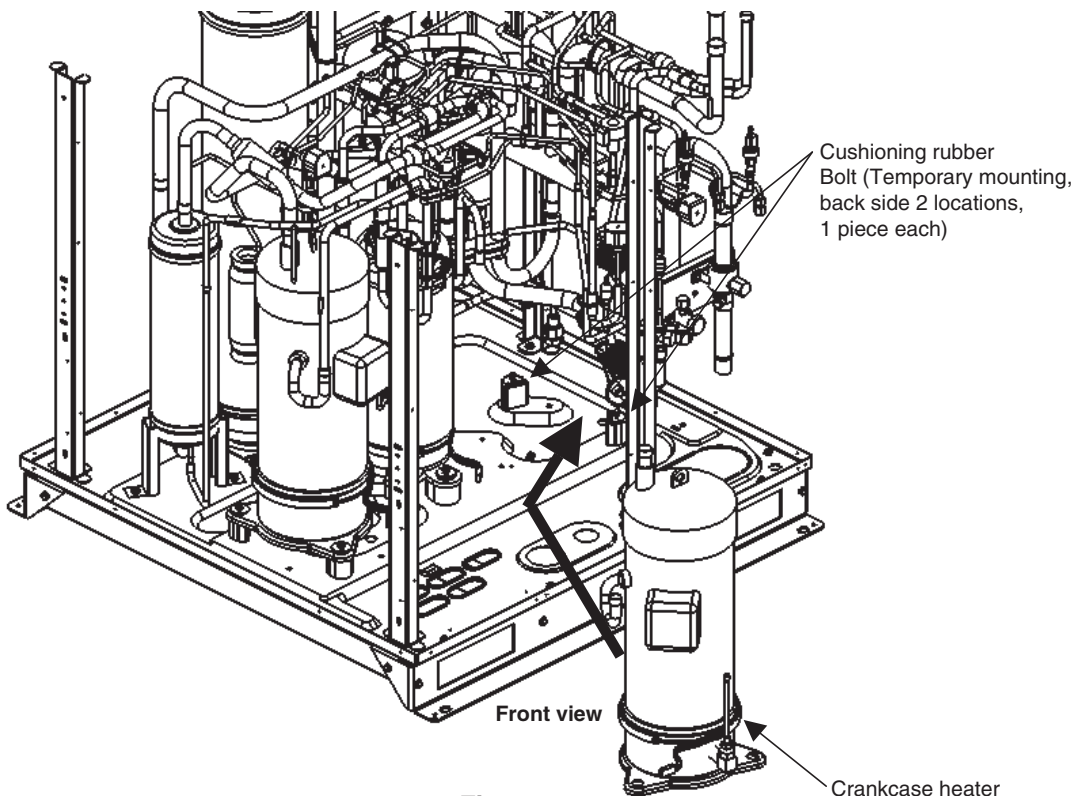

Fig. 30
- (5) Install the crankcase heater onto the new compressor.
- (6) Use only the bolts to temporarily fasten the cushioning rubber (2 pieces) at the position as shown in the figure 30.
- (7) Place the 2 pieces of cushioning rubber onto the legs of the new compressor.